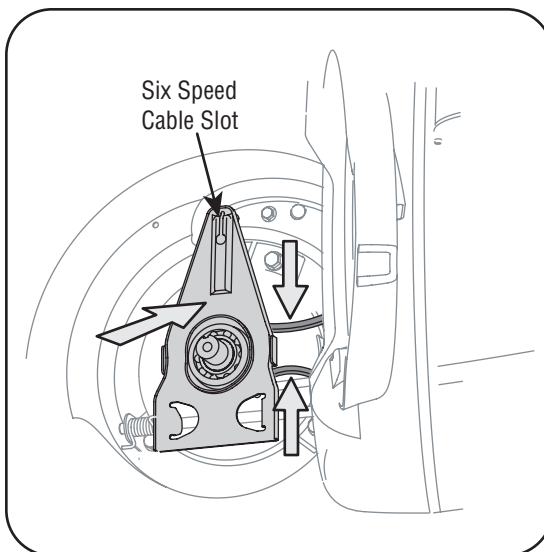

Figure 5-9
9. Squeeze the belt together and push it forward, while pressing the control arm inward towards the deck and remove six speed cable from the slot. See Figure 5-9.